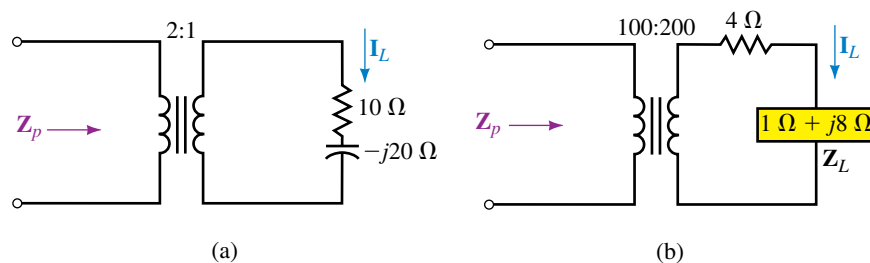

FIGURE 24–72
11. For each circuit of Figure 24–72, determine $\mathbf{Z}_p$.
12. For each circuit of Figure 24–72, if $\mathbf{E}_g = 120 \text{ V} \angle 40^\circ$ is applied, determine the following, using the reflected impedance of Problem 11.